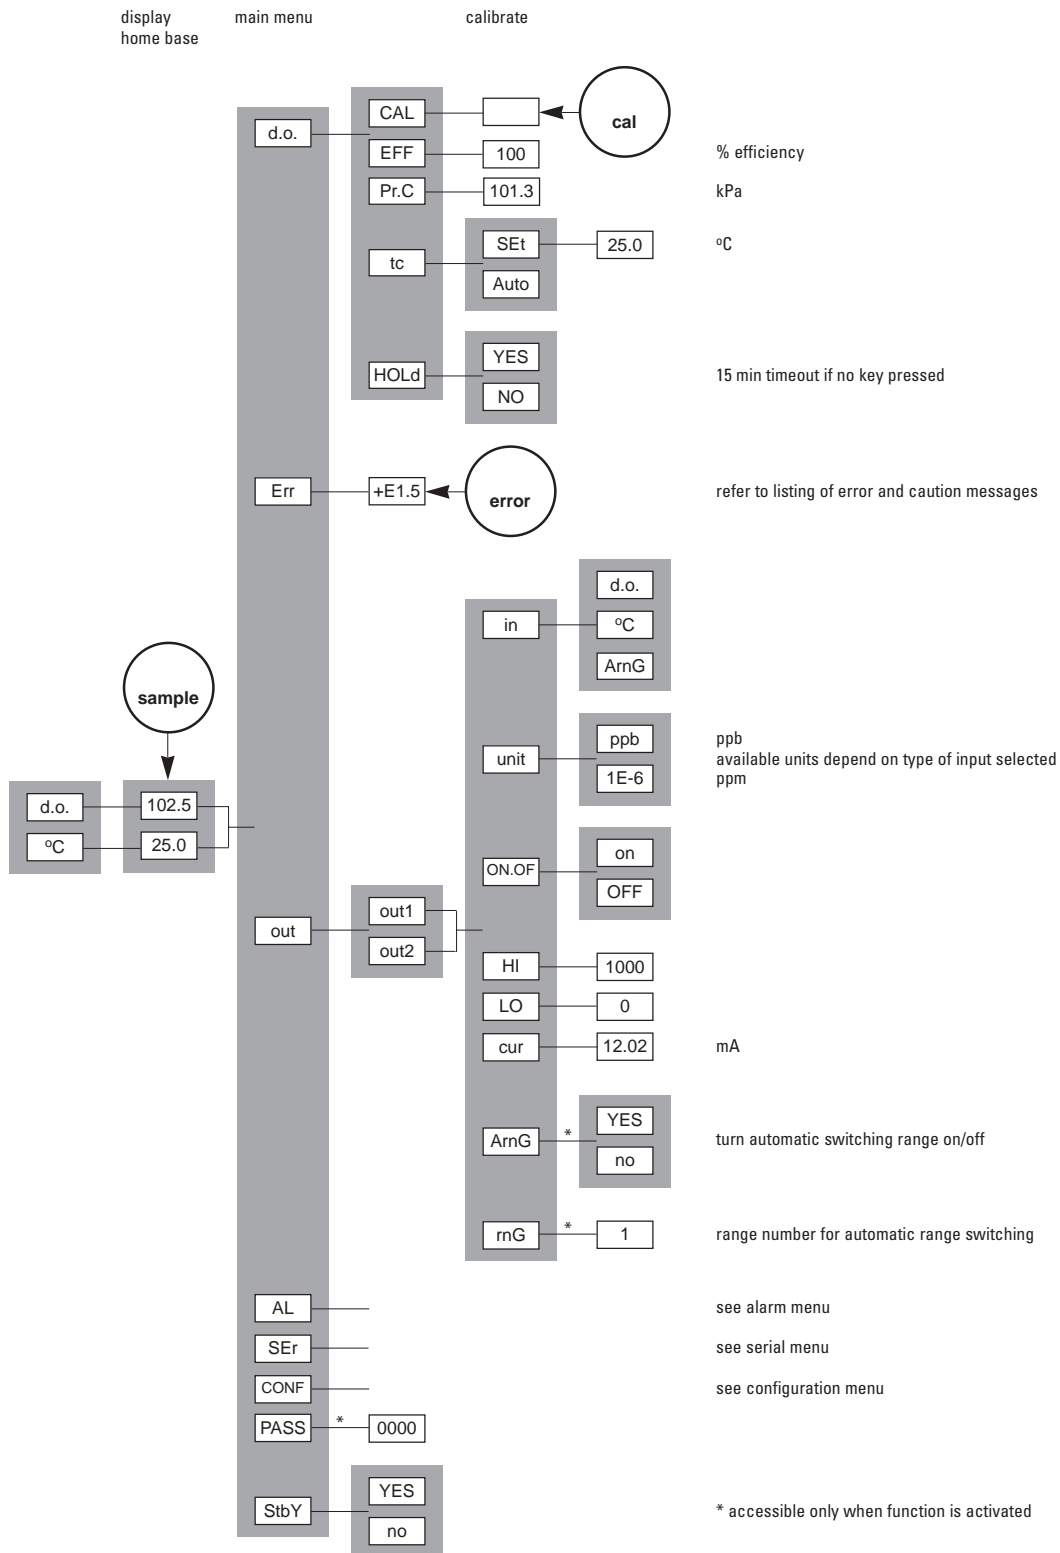

FIGURE 11 MAIN MENU
9. After completing the above steps, the monitor is now in normal operational mode. Analyzer settings and parameters can be viewed and/or changed at any time using the keypad. Refer to the menus starting with Figure 11. The areas shaded in dark gray indicate program settings which can be changed by the user. Menu areas shaded in light gray are view-only menus.
The layout of the program is shown in the menus found in Figure 11 and the following.